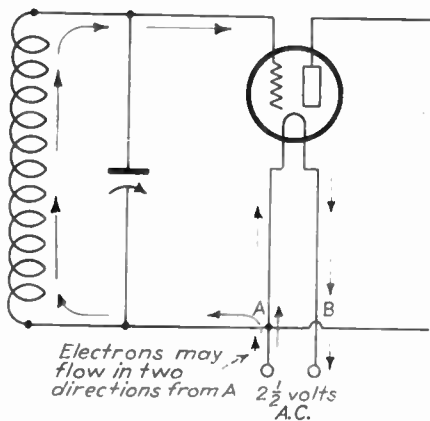

Fig. 211. This circuit will hum.
The filament shown in Fig. 211 is heated by a $2\frac{1}{2}$ -volt alternating current. During one surge of the alternating
1. During one cycle of the alternating current, the electrons will flow onto the filament at *A* (see Fig. 211). When they reach point *A*, they will branch out and flow in two directions. Show these two directions by means of arrows.
2. When the alternating-current surge is on the *A* side of the filament (Fig. 211), will the grid be made more positive or more negative?
3. When the surge enters on the *B* side of the filament (Fig. 211), will the grid be made more positive or negative?
1. Electrons from the B battery have a choice at point A (Fig. 211) of flowing in two directions. Which path will most of them take? Give